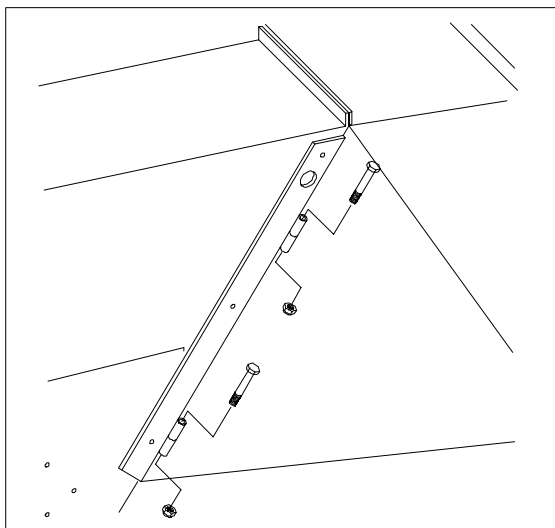

Fig.3.
2. Fasten the feed chute to the frame with two hinge bolts (M10x110 screws and M10 lock-nuts) and lock it into working position. Fig.3.